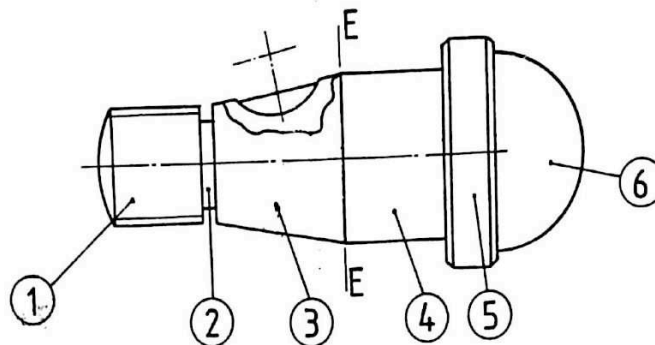

FIG. 4 FIG. 4
4. (a) Using the data table below, make a fully dimensioned drawing, showing all specifications, of the machine part in Fig. 4. Use edge EE as a datum.